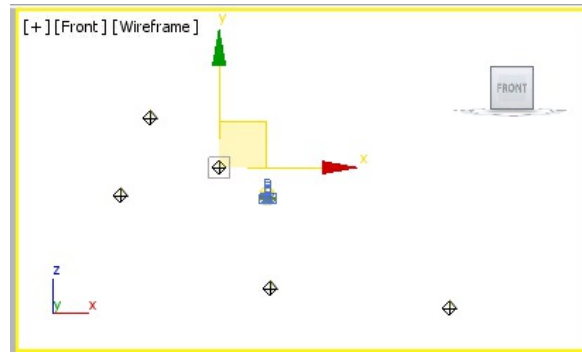

Figure 14-53 Omni light selected to add the advance effects
4. In the Front viewport, select the omni light that is placed on the left side of wireframe earth sphere, as shown in Figure 14-53.